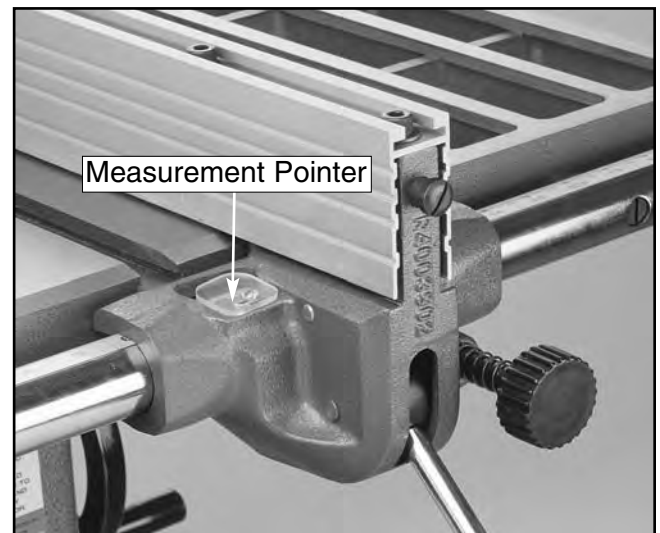

Figure 40. Adjust measurement pointer.
6. Once the fence is adjusted, check the measurement pointer shown in **Figure 40**, and adjust if necessary.